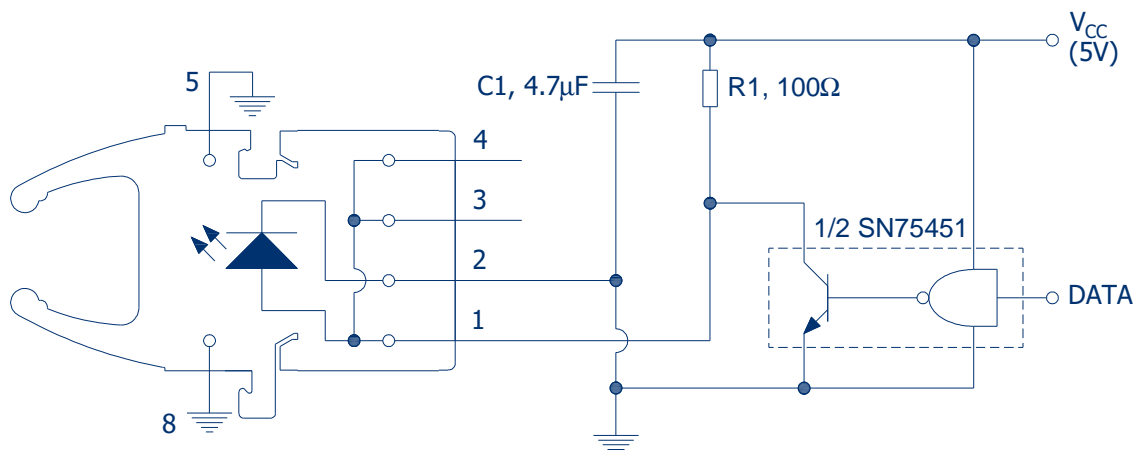

FIGURE 2
Transmitter propagation delay and rise/fall time definitions as per application circuit of Figure 2
3. As measured in the given application circuit (non-inverting) as shown in Figure 2 with 50 cm of 0.5 NA POF